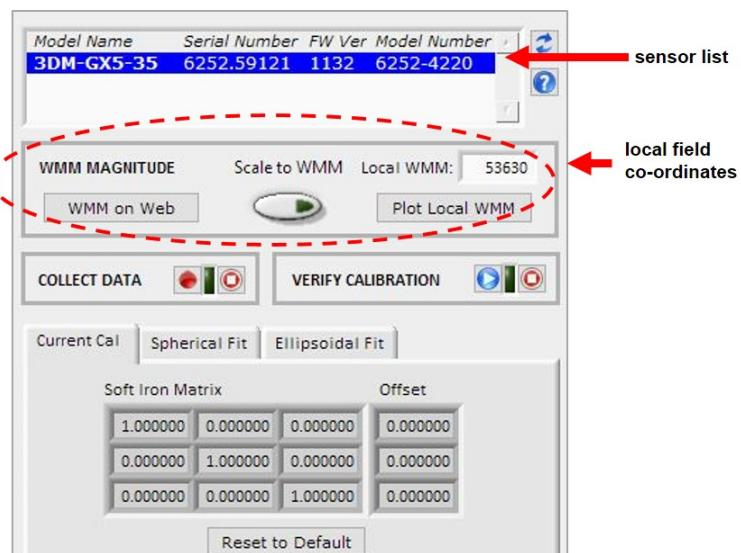

Figure 20 -Sensor Menu
3. The sensor should automatically appear in the sensor list. If not, use the Refresh button to query it and then select the sensor (Figure 20 - Sensor Menu).